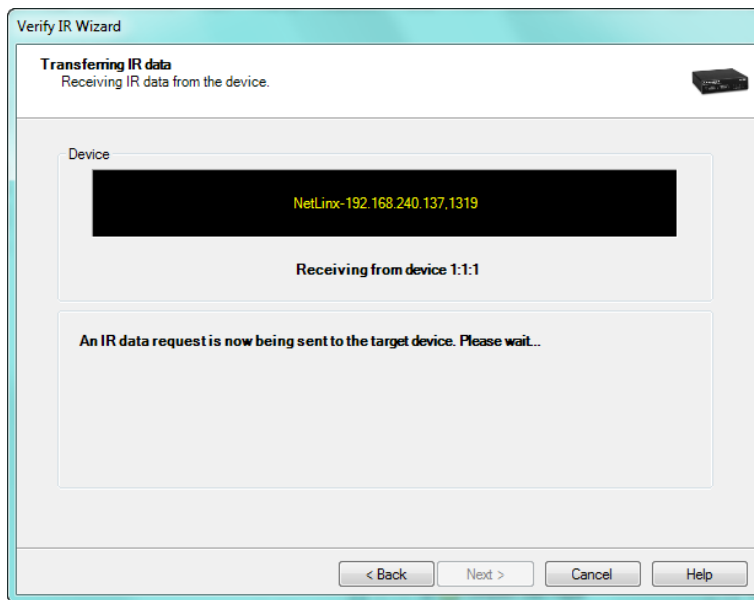

FIG. 61 Verify IR Wizard - Transferring IR Data dialog
4. Select **Next** to proceed to the *Transferring IR Data* dialog (FIG. 61):